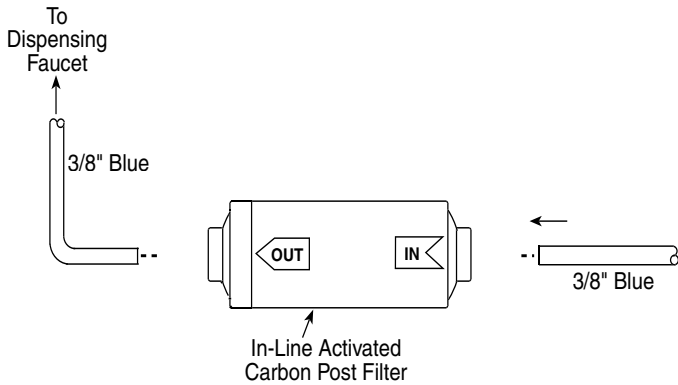

Figure 5
4. Firmly reconnect the polytubes to the new Post Filter. (Refer to Fig. 5, page 16.)